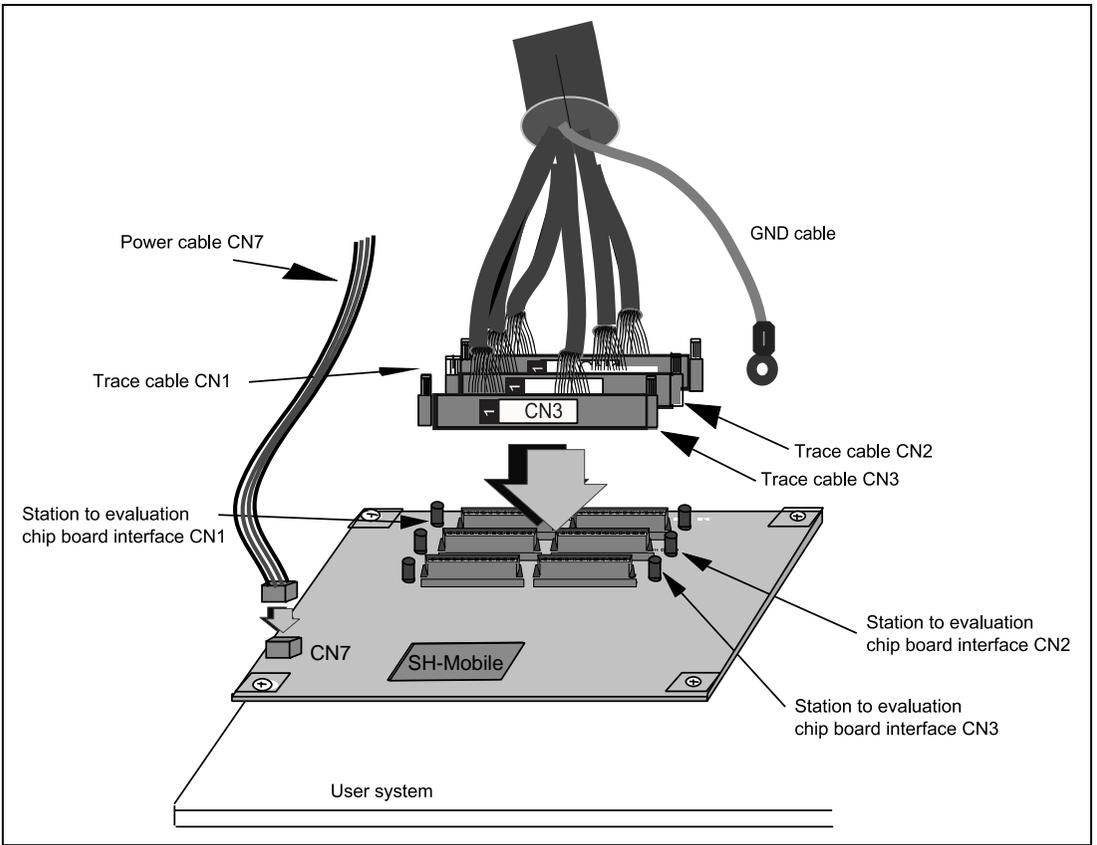

Figure 3.5 Connecting Trace Cables to the Evaluation Chip Board
4. Connect the trace cables to the station to evaluation chip board interface connectors CN1, CN2, and CN3 on the evaluation chip board. Confirm that each trace cable connected to a connector on the emulator station is also connected to its corresponding station to evaluation chip board interface connector on the evaluation chip board. Connect the cables using the same method as in step 3*. Figure 3.5 shows how to connect the trace cables to the evaluation chip board interface connectors.
5. Connect the power cable in the device control board to the evaluation chip board. The power cable prevents an insertion error. Figure 3.5 shows how to connect the power cable.